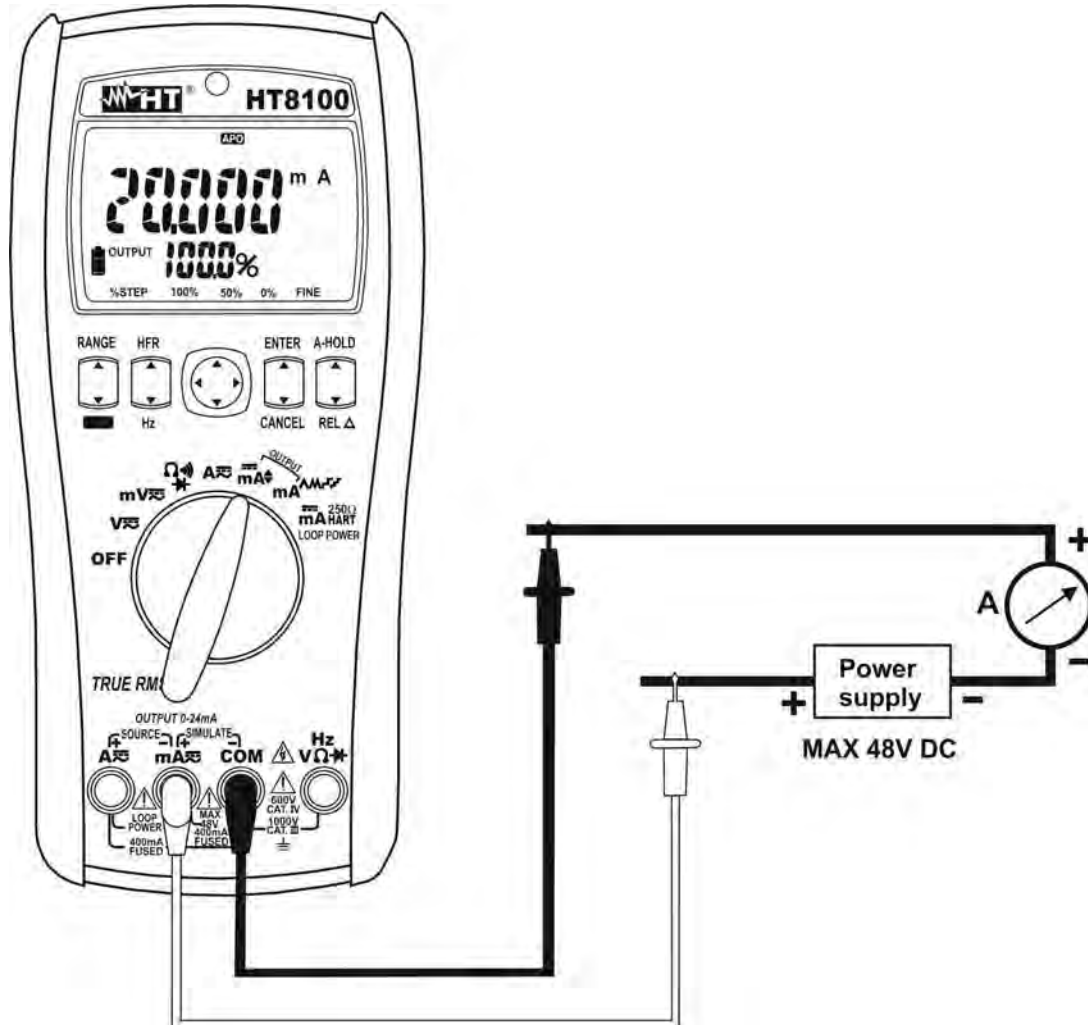

Fig. 9: Use of the instrument for simulating a transducer
5. Position the red lead and the black lead respectively in the points with positive potential of the external source and positive potential of the external measuring device (e.g.: multimeter – see Fig. 9)